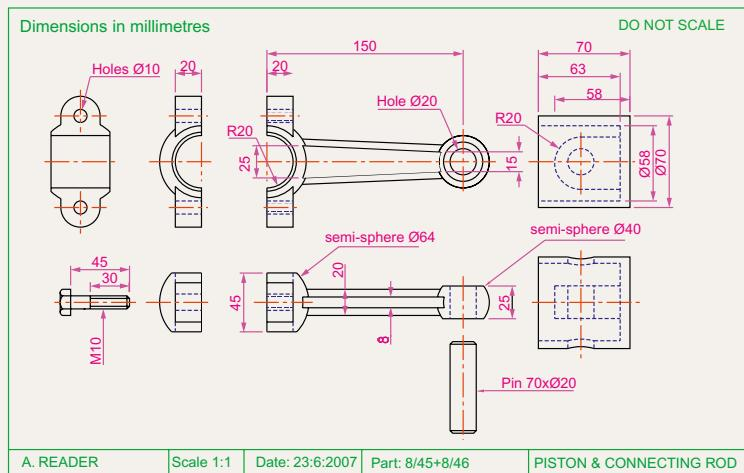
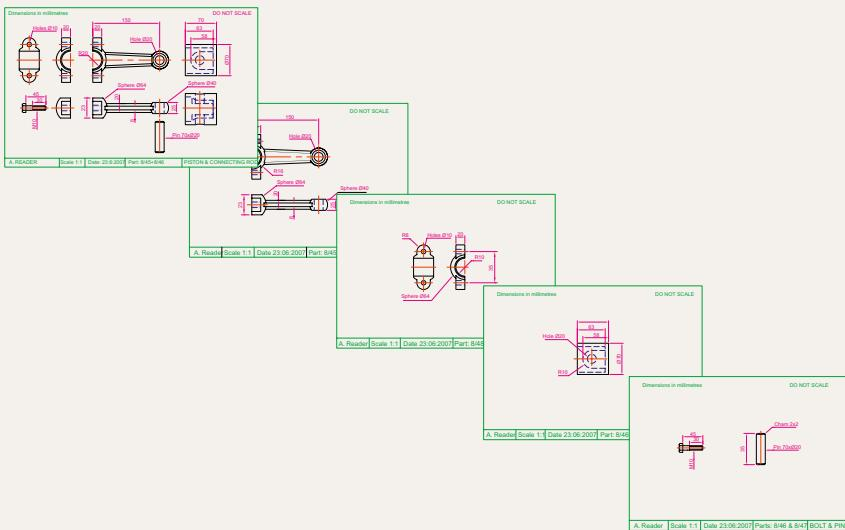

Fig. 11.15 Exercise 1 – exploded orthographic projection
Fig. 11.17 Exercise 1 – the five drawings in the sheet set
- Fig. 11.15 is an exploded orthographic projection of the parts of a piston and its connecting rod. There are four parts in the assembly. Small drawings of the required sheet set are shown in Fig. 11.17.
Construct the drawing Fig. 11.15 and also the four drawings of its parts. Save each of the drawings in a **Layout1** format and construct the sheet set which contains the five drawings (Fig. 11.17).